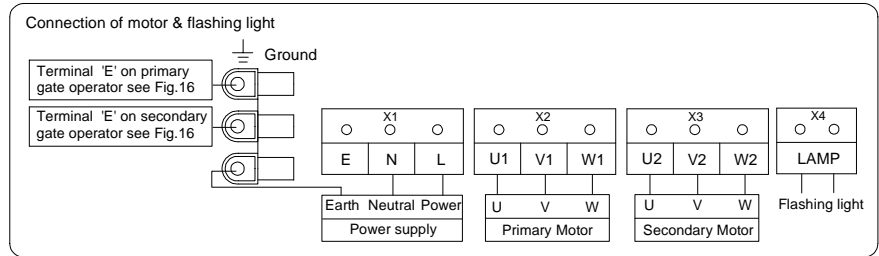

Fig.25
**Power** (see Fig.25)
**Motor** (see Fig.25)
**Flashing light** (See Fig.25)